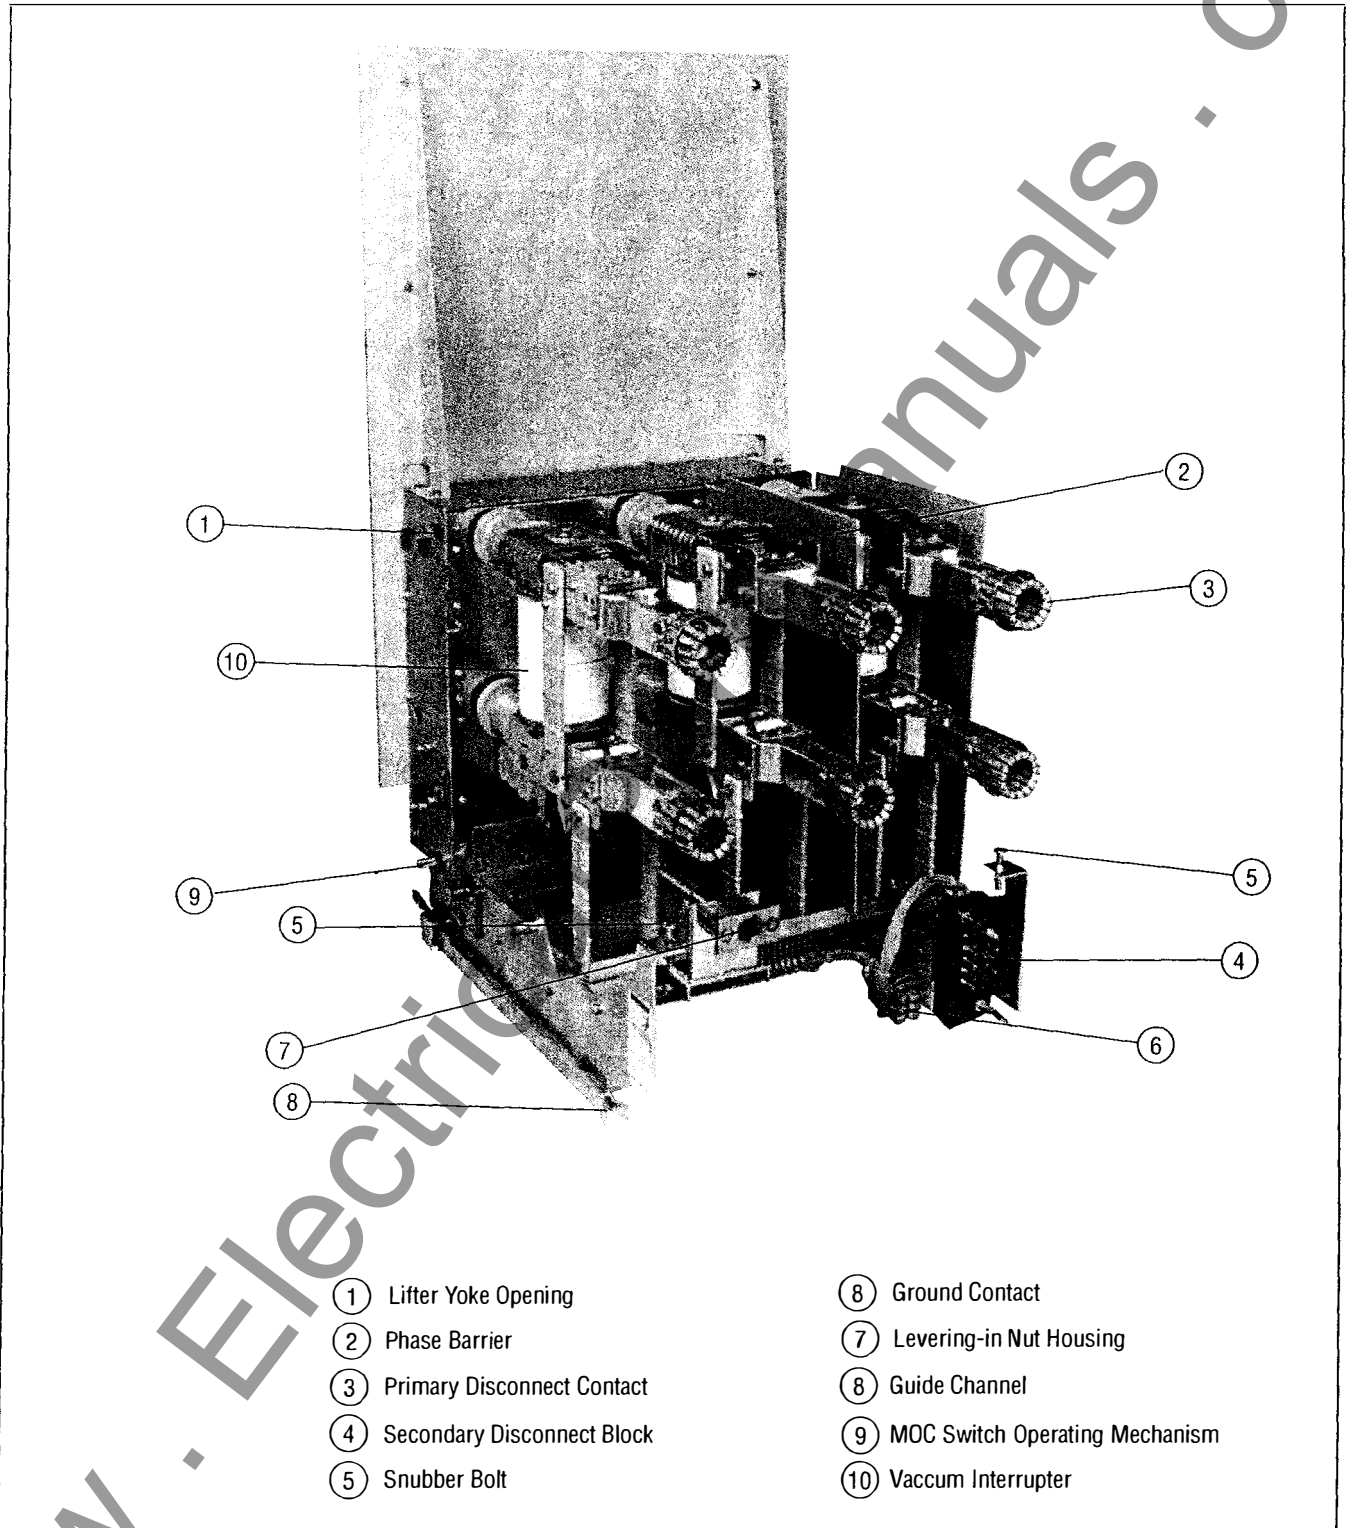

Figure 3-5 Rear External View of DHP-VR Breaker (7.5 and 15 kV, 500 and 750 MVA Ratings)
Step 1: Remove the right hand phase barrier from the breaker (Figure 3-5).